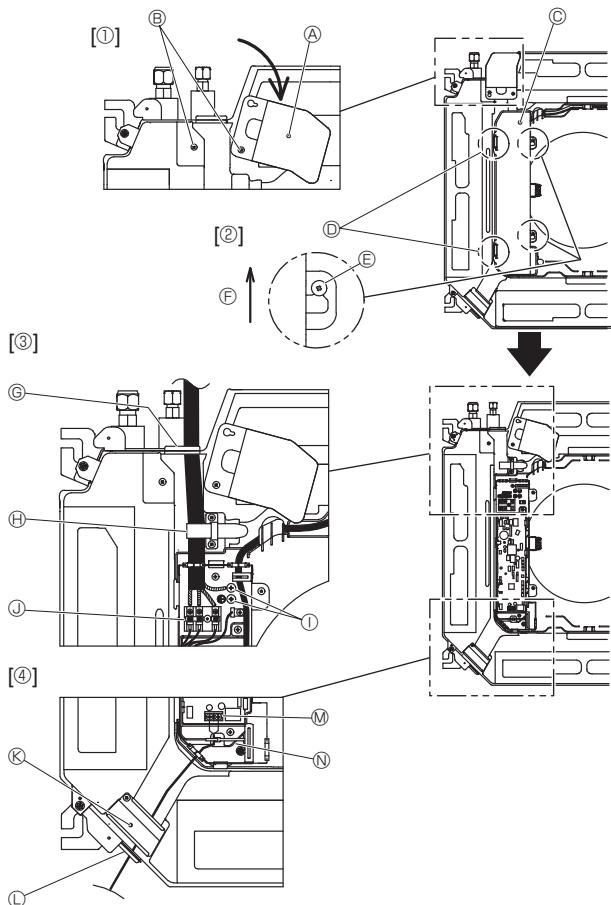
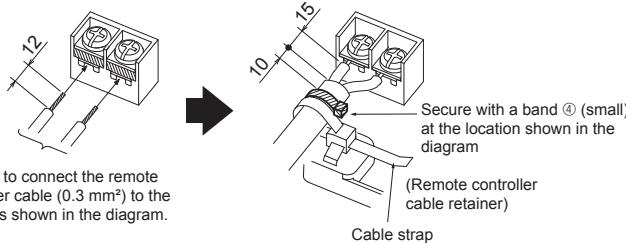

Fig. 6-1
Fig. 6-3
6.1. Indoor unit (Fig. 6-1)
- Loosen the two screws securing the electrical wiring service panel, and then turn the electrical wiring service panel. [Fig. 6-1 ①]
- Loosen the two screws securing the electrical box cover, then slide the electrical box cover. [Fig. 6-1 ②]
- Pass the power cable, indoor/outdoor unit connecting cable and earth cable through the wiring entries given in the diagram. [Fig. 6-1 ③]
- If you cannot use round crimped terminals, following the procedure in Fig. 6-3 to 6-6.
- Pass and wire the remote controller cable through the wiring entries given in the diagram. [Fig. 6-1 ④, Fig. 6-3]